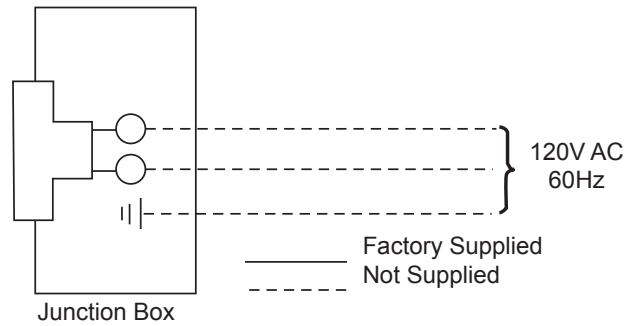

Figure 52 - Junction Box Wiring Diagram
3. The junction box cover has a factory installed “romex” style strain relief connector. After connecting the wires, route the wire leads through this connector. Refer to the wiring diagram in *Figure 52*.